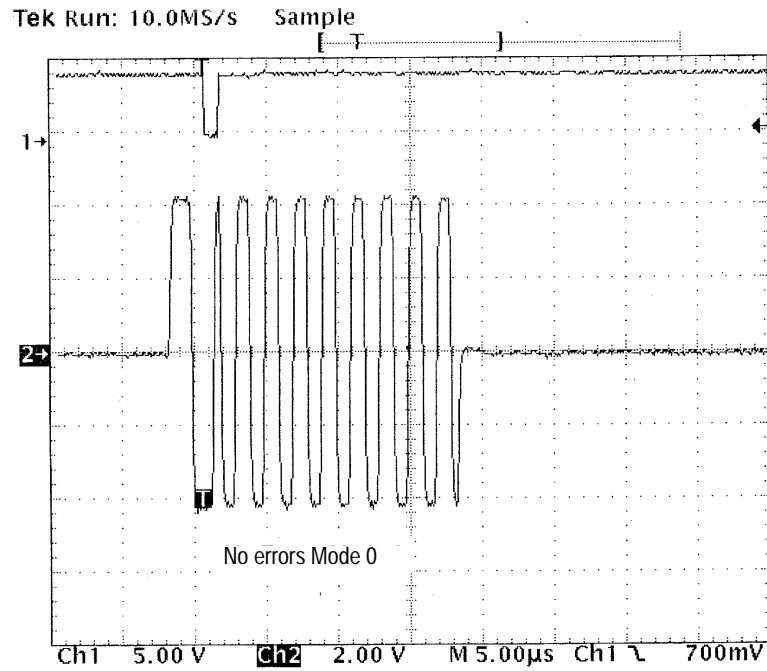
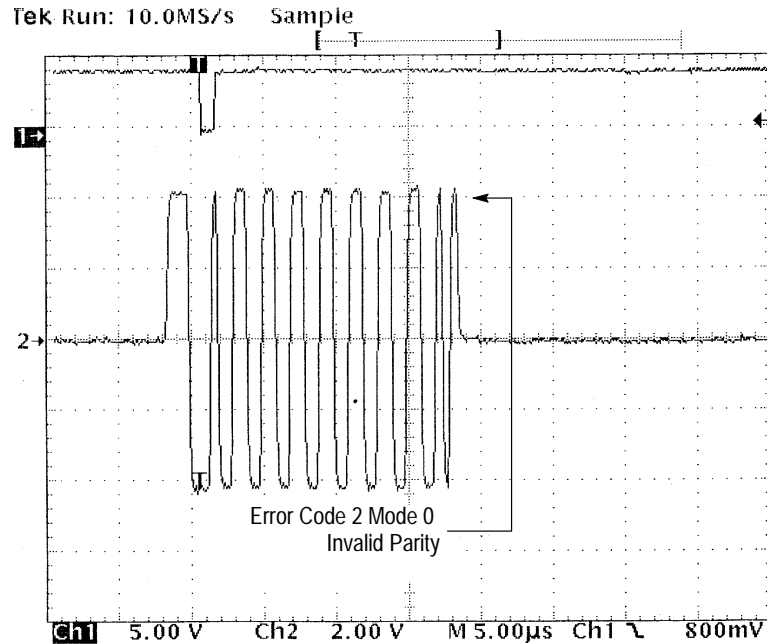

Figure 455-11: No Error Injection
Figure 455-13: Invalid Parity
Follow the steps below to verify that there is no error in the injection transmission. Refer to Figure 455-11.
- Verify that the parity bit is the opposite of Figure 455-11 (no error injection transmission). Refer to Figure 455-13 for an example of an invalid parity.